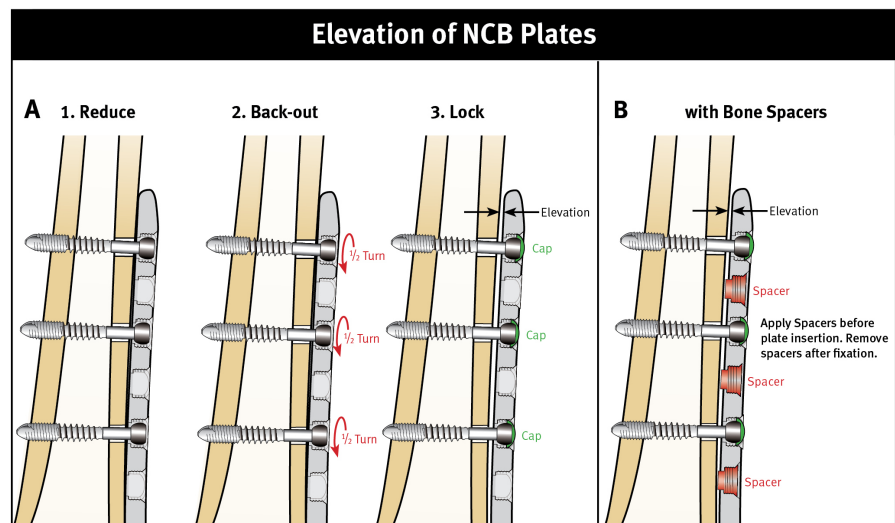

Fig. 29
**NOTE:** If NCB Spacers are not used, and the plate is directly adjacent to the bone, the MotionLoc Screws should be backed out ½ turn to provide a 1mm gap between the plate and the bone (Fig. 29).